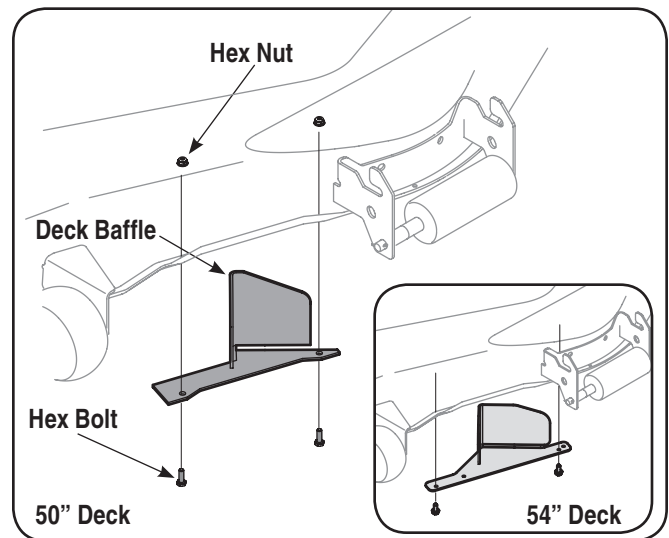

Figure 4-17
2. Install the front deck baffle using the hardware pack 689-00090 included with this bagger kit. See Fig. 4-17.